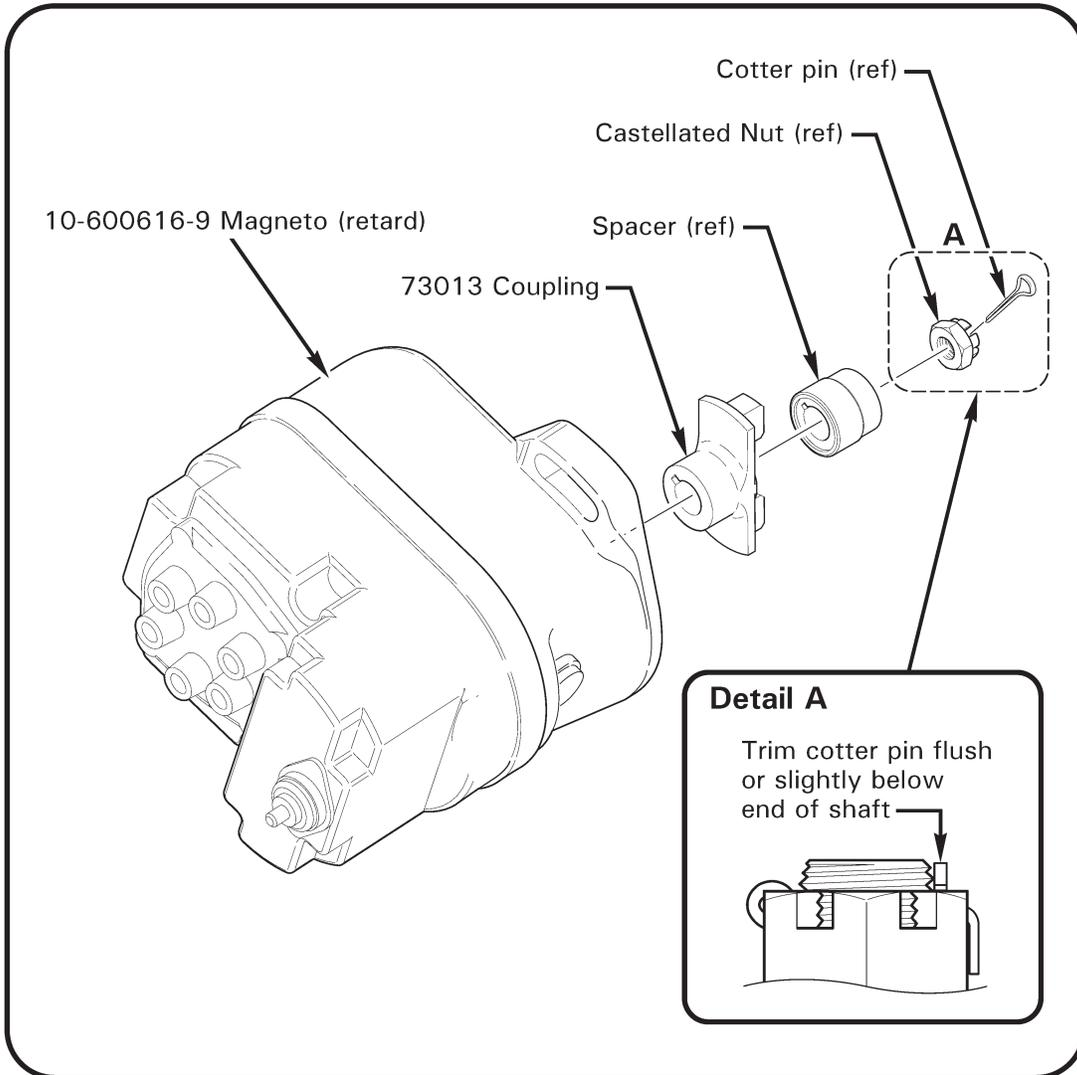

Figure 6 Magneto 73013 coupling assembly
11. Refer to Figure 6. Using hardware supplied with magneto, install 73013 coupling and spacer on to magneto. Apply light coat of C5-A copper-base anti-seize compound on threads and install castellated nut. Torque castellated nut to 180-300 in-lb. Align castellated nut to next available hole on shaft and install supplied cotter pin through the castellated nut. Bend and trim prong as shown.